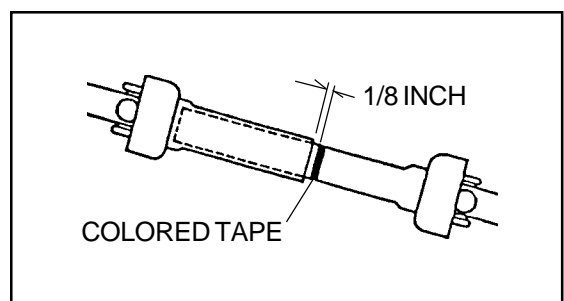

FIGURE 2
- * Apply colored tape to the Inner Shield 1/8" from the end of the Outer Shield. **FIGURE 2**